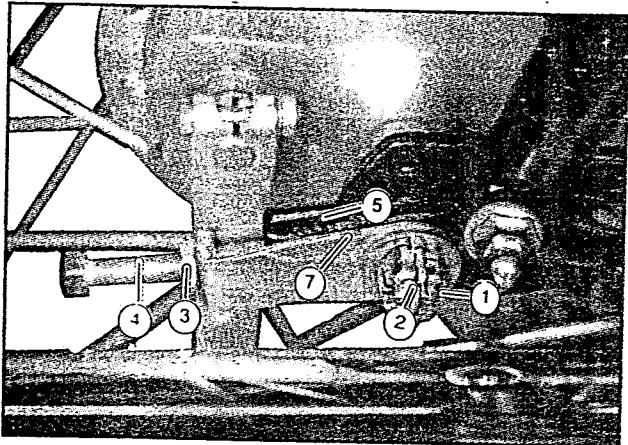
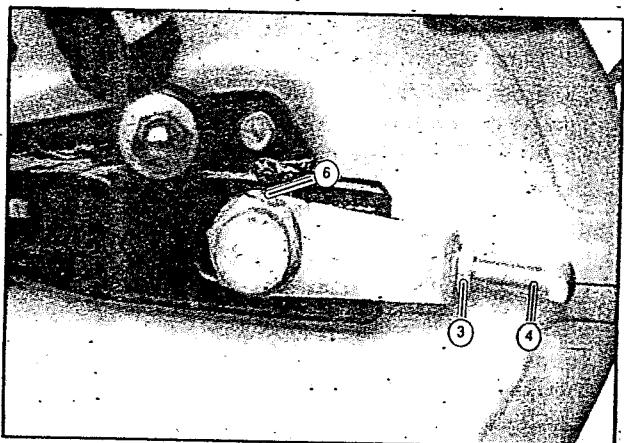
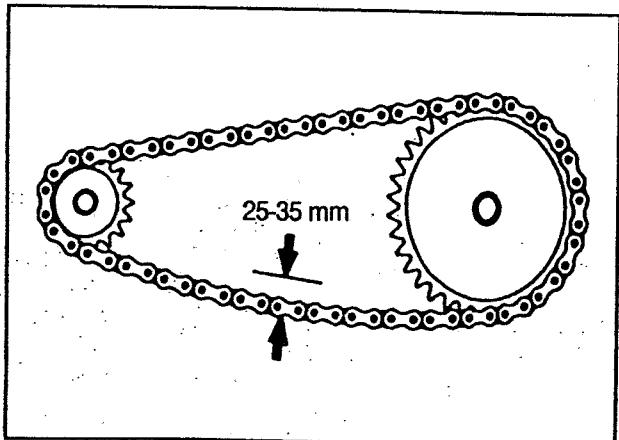

Fig 2.34
Fig 2.35
Fig 2.37
- Loosen axle nut (1) after pulling out cotter pin (2) on the right hand side of the vehicle (fig 2.34).
- Loosen the lock nut (3) of both sides of the vehicle (fig 2.34) and (fig 2.35)
- Loosen sprocket nut (6) (fig 2.35) on the left hand side of the vehicle.
- Loosen the adjuster bolts (4) (fig 2.34) until the chain has 25-35 mm of sag at the middle between engine and rear sprockets (fig 2.37)
- The notch (7) on both chain adjusters must be at the same position on the scale (5) to ensure that the front and rear wheels and the sprockets are correctly aligned (fig 2.34 and fig 2.35).
- After adjusting the drive chain, tighten the axle nut (1) and sprocket nut(s) securely and lock with cotter pin (2). Always use a new cotter pin.